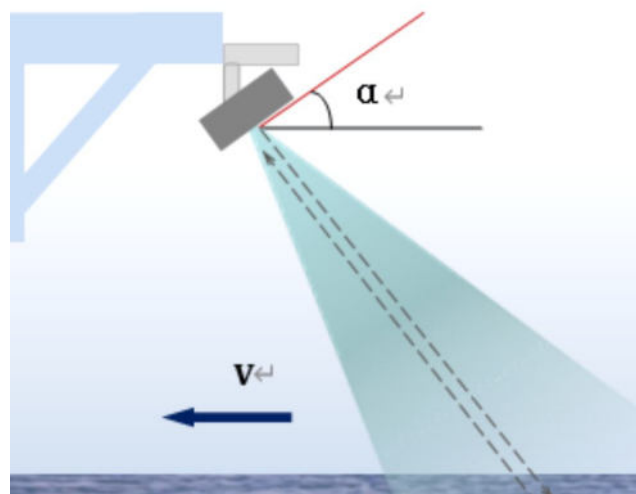

Figure1 Schematic diagram of 30 degree installation of flow meter
1. The installation angle is $\alpha = 30^\circ$, as shown in figure 1
The installation angle of the current meter can be adjusted appropriately within the range of 30 to 60 degrees. Note that the installation angle refers to the angle between the antenna plane of the current meter and the horizontal plane (the complementary angle between the radar beam and the horizontal plane). In a uniform environment, large angles are easy to jump, and the smaller the installation angle, the better the suppression of rainfall interference and the better the signal quality. The recommended installation angle is about 30 degrees, as show in figure 1.